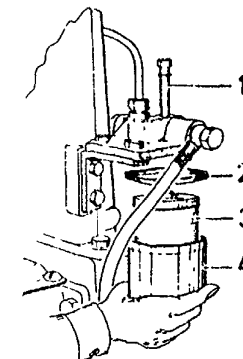

Fig. 10
## Change Fuel Oil Filter (fig. 10):
3. Replace fuel filter element. Page 7, fig. 10.